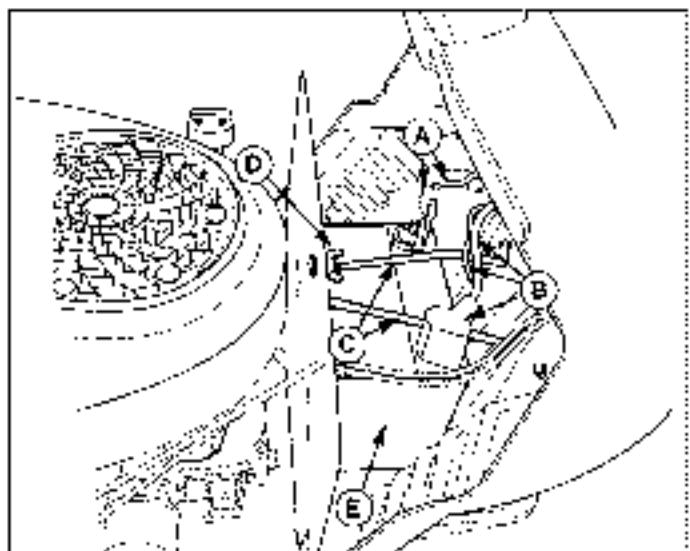

Figure 9. Battery Maintenance
1. Disconnect the cables from the battery; negative cables first (A, Figure 9) then the cover & positive cables (B).